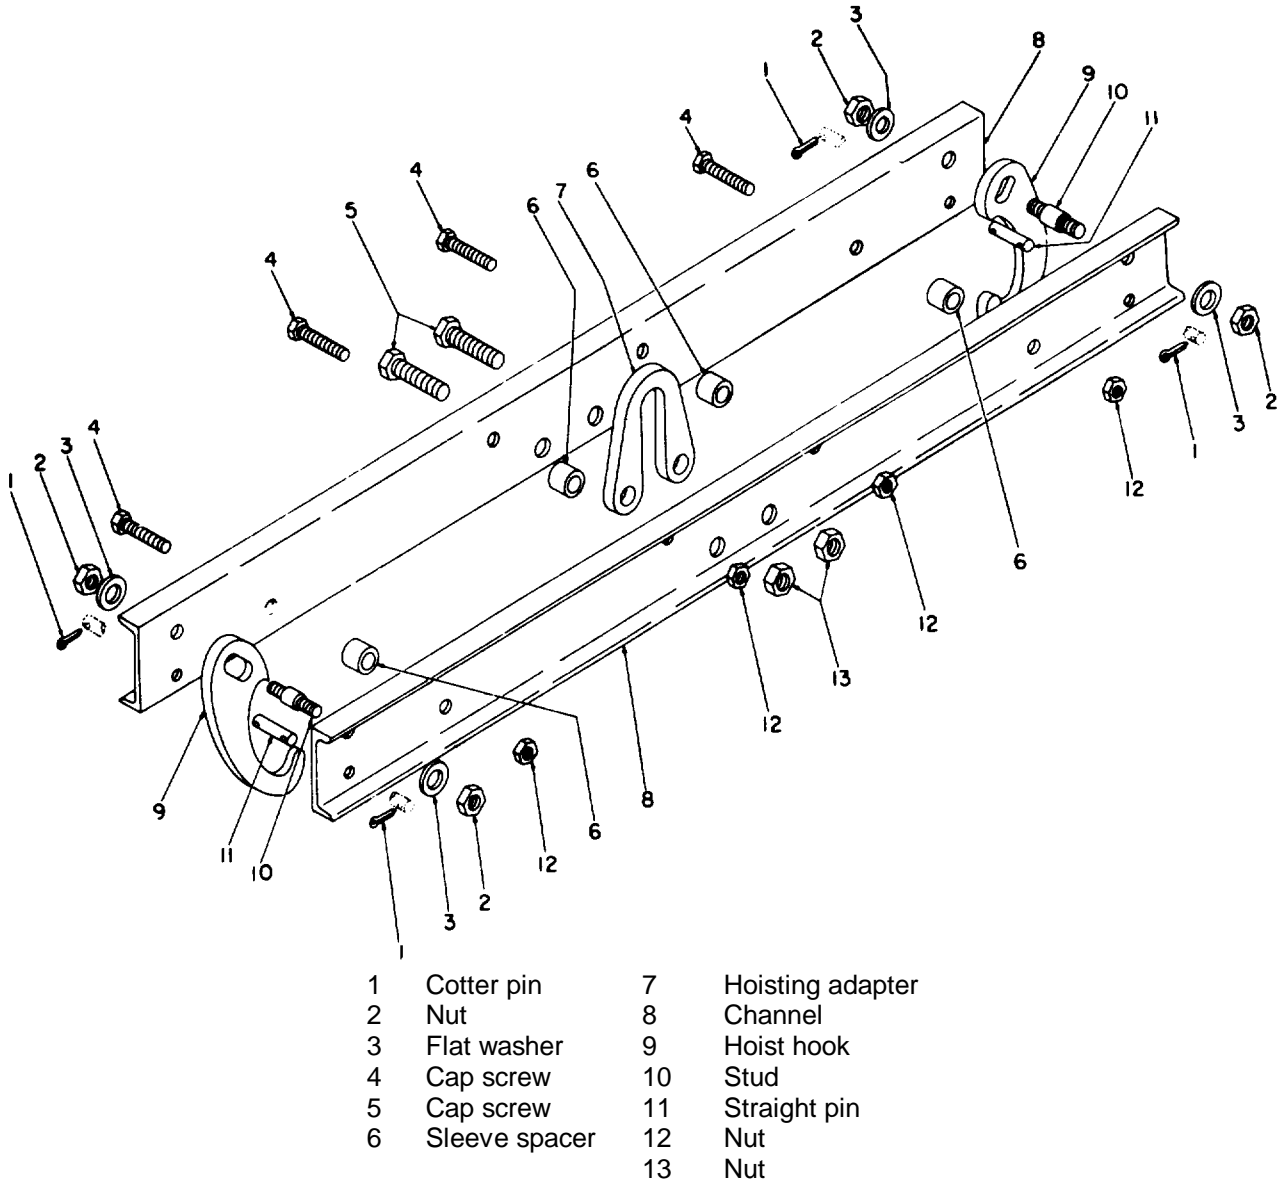

Figure 2. Components of M1 liquid gas tank hoisting beam.
The hoisting beam is 81 inches long and weighs 150 pounds. It consists of two structural steel channels with hoist hooks (9, fig. 2) pivoted at the ends, and a hoisting adapter (7) between them at the center. The channels, separated by spacers (6), are bolted together to form the hoisting beam. Each hook is pivoted on a stud (10) which is bolted to the two channels. A straight pin (11) at each end of the beam locks each hook against the rim of a 1-ton container while the container is being hoisted.
- (2) *Disconnecting the hoisting beam*. Lower 1-ton container to a support and lower beam until it rest on container. Unclamp hooks from rims of container by moving them outward. It may be necessary to push the hooks upward into the space between the channels while moving them to let the projections on the hooks pass the pins. When hooks are free, lower beam to support and disconnect adapter from hoist.
a. *Preventative Maintenance Services*. Inspect the beam before and after operation for damage to the hoisting adapter (7, fig. 2), the hoist hooks (9), the channels (8), and other parts. Clean any dirt from the unit before using. Do not use a damaged beam, but replace the entire unit. Turn in any beam in need of repair or painting to organizational maintenance personnel.
b. *Lubrication*. Lubricate at least once a month or as required. Apply chain-wire rope-exposed gear lubricating oil (CW) to hoist hooks (9), studs (10), and straight pins (11).
a. *Repair*. Replace all damaged parts except the channels (8, fig. 2). If channels can no longer be used, the entire hoisting beam should be turned in for salvage. To replace parts, disassemble and assemble the beam in the following manner.
- (a) Remove 6 cap screws (4 and 5), 6 nuts (12 and 13), and 4 spacers (6).
- (b) Remove 4 nuts (2), 4 flat washers (3), and 4 cotter pins (1). The straight pins (11), the studs (10), the hoist hooks (9), and the hoisting adapter (7) can now be removed.